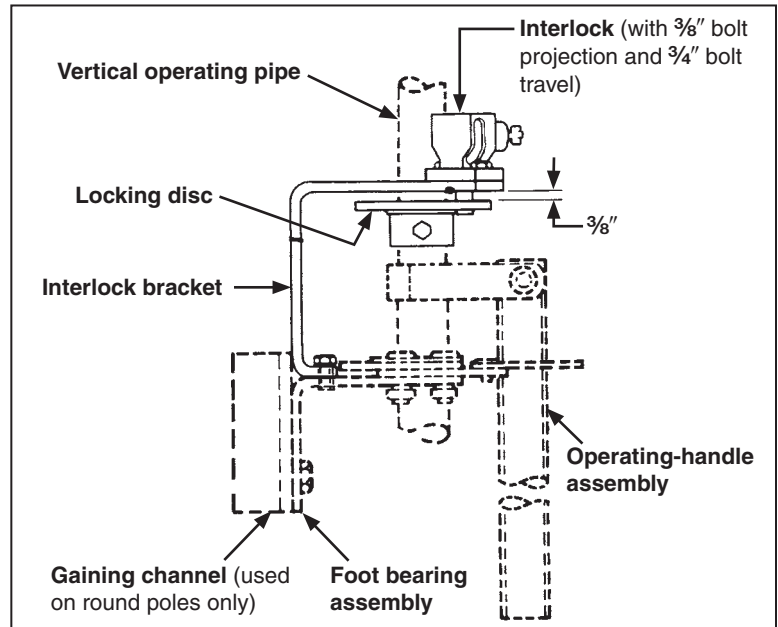

Figure 20. Key-interlock group detail.
With key interlock: The interlock group (see Figure 20) includes a Superior key interlock, Type B6003-1 Mk II single or multiple key (or equivalent), with $\frac{3}{8}$ -inch bolt projection and $\frac{3}{4}$ -inch bolt travel, locking disc, and interlock bracket. If “provision only” for a key interlock is specified, the interlock will not be included. Assemble with the operating-handle assembly as follows:
- a. Slide the interlock bracket, locking disc, operating-handle assembly, and foot bearing assembly onto the lowest vertical-operating-pipe section with the locking disc and the operating-handle assembly between the interlock bracket and the foot bearing assembly as illustrated in Figure 20. Bolt the foot bearing assembly to the pole at the position shown on the erection drawing. At the same time, use one of the mounting bolts to attach one end of the grounding strap (the end with the grounding connector attached) to the foot bearing assembly.▲